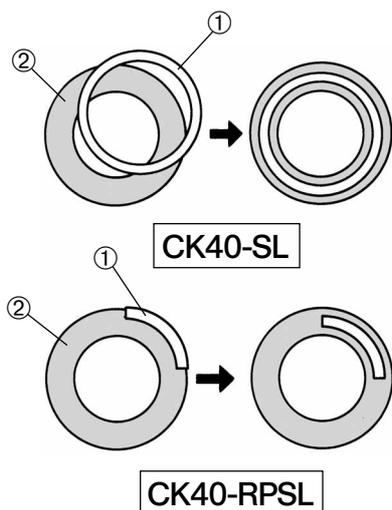

Fig. 35
(Figs. 35 &amp; 36)
4. While looking into the centering telescope, turn the knurled dial to focus on the phase annulus ② of the objective corresponding to the light annulus or relief slit ①. (Fig. 35)
5. Insert the centering levers ④ into the two centering tapped holes ③ on the phase slider or RP slider. Tighten and loosen the centering levers until the light annulus or relief slit ① is superimposed on the phase annulus ②. (Figs. 35 & 36)
6. Repeat these steps to adjust the other objectives. Keep in mind, however, that 10X and 20X objectives share the same light annulus with the CK40-SL and CK40-RPSL. Put an uncentered objective into the light path to make absolutely sure the light annulus or relief slit ① is not deviating from the phase annulus ②. If there is any deviation, perform the centering procedure again.